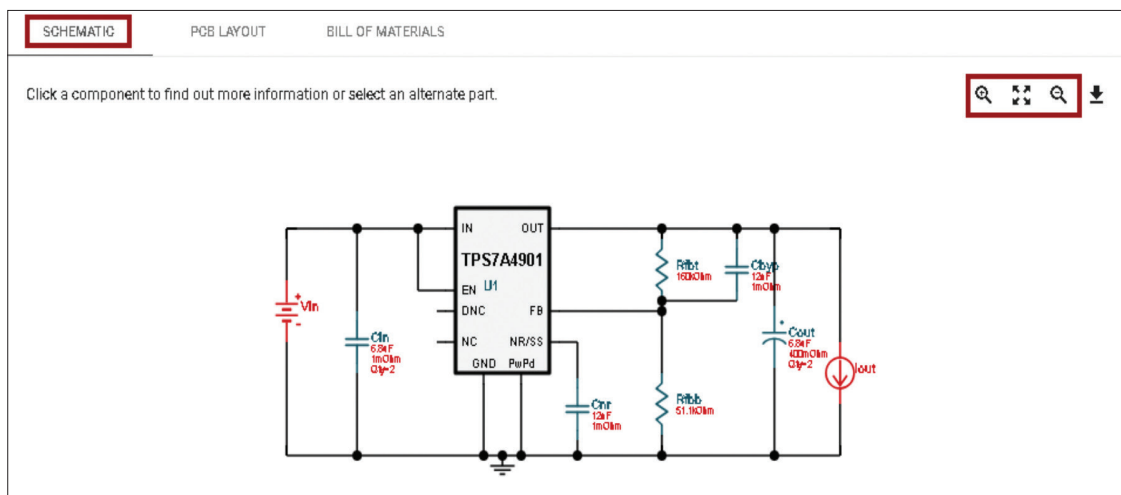

Figure 2.
- You can click on the **'schematic'** to expand and view your **WEBENCH** design as shown in **Figure 2**.